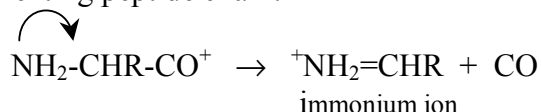

Figure 7. Mouse based scaling: use the right mouse button.
8. Expand the profile spectrum to show the isotope peaks around your dipeptide peak. To expand the plot move the mouse cursor until the cursor changes to a "↔", see Figure 7. Then use the right mouse button to control the scale expansion and the left mouse button to control the scale offset. When you have expanded the scale sufficiently, you will see the isotope peaks clearly.